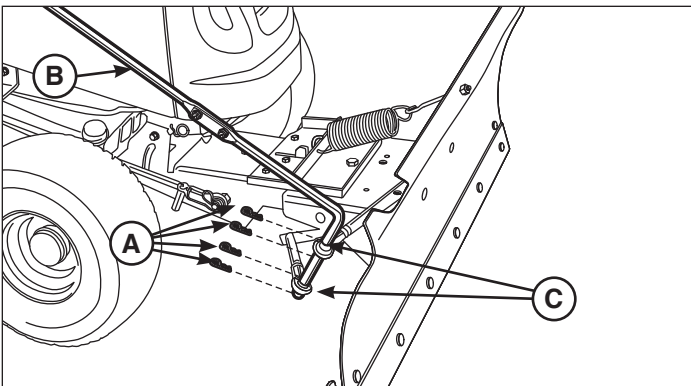

Figure 22
2. Remove the four (4) hair pins (A, Figure 22) from the control arm (B) from ball joints (C) and remove the control arm from the snow blade assembly.